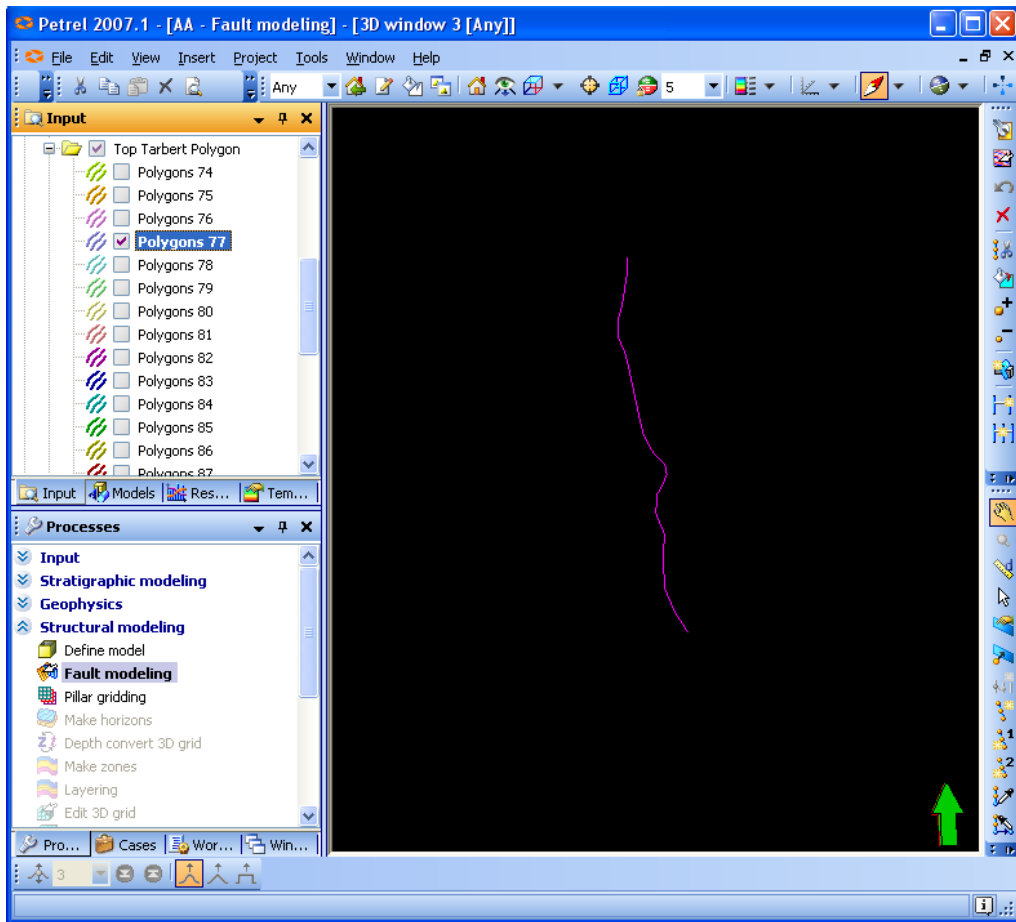

Fig.11.4: Fault Polygon displayed in a 3D window
3. Display one of the fault polygon in the **Top Tarbert Polygons** folder in a 3D window e.g. **Polygon 77**, as shown in Fig. 11.4.